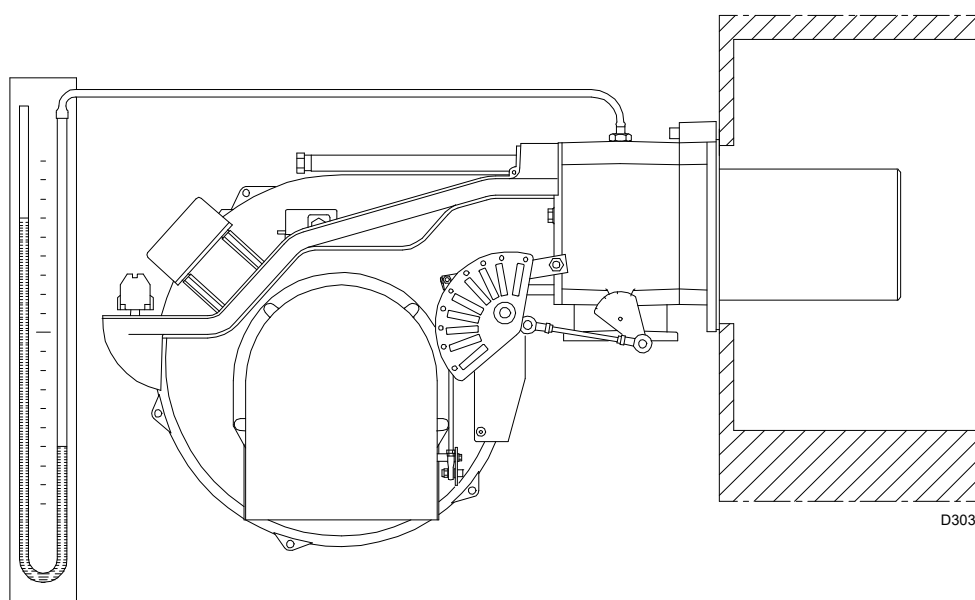

Fig. 27
- Fit a U-type manometer (Fig. 27) to the gas pressure test point on the sleeve.